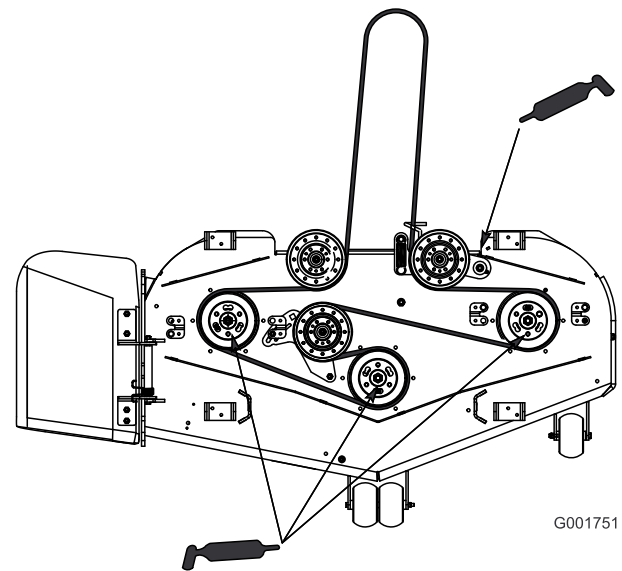

Figure 25
3. Grease the fittings on the 3 spindle bearings (Figure 25).
4. Grease the idler pulley pivot (Figure 25).